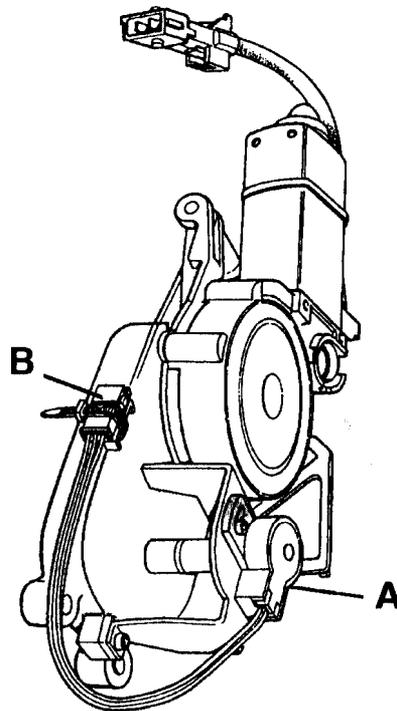

Figure 16. Fitting new potentiometer
9. Fit the new potentiometer in place with the electrical leads pointing downwards. See Figure 16.A below. Be sure to index "D" shaped slot in potentiometer with adapter.
Position the connector as shown in Figure 16.B above.